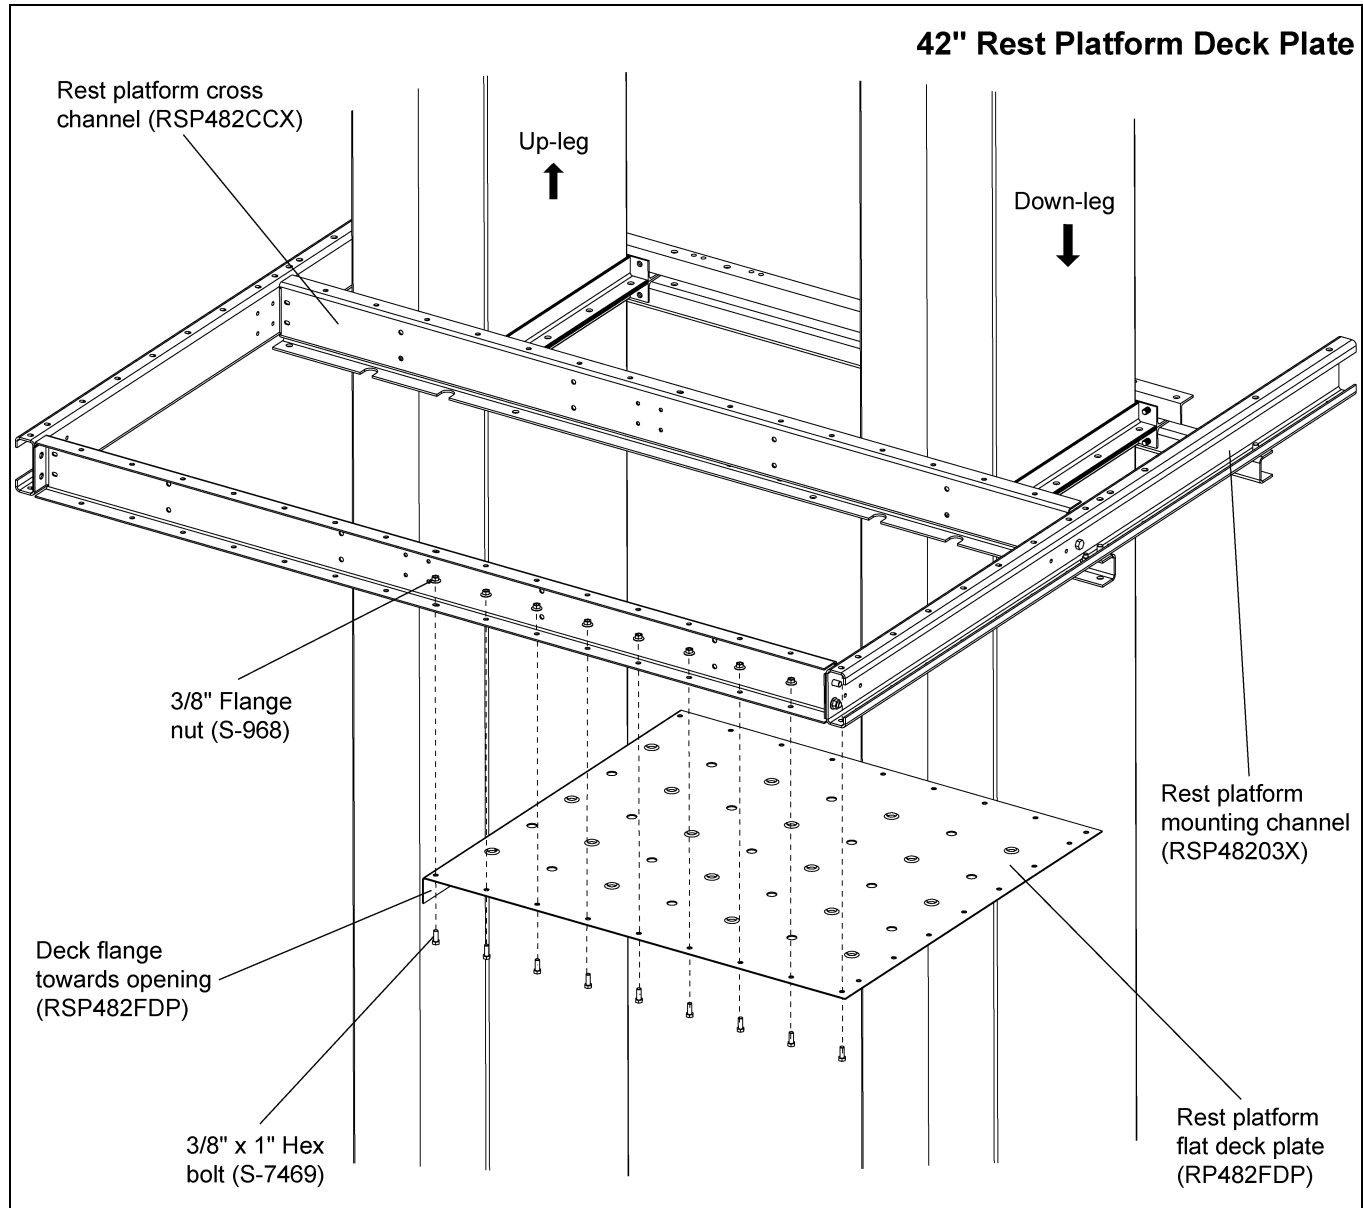

Figure 7H 42" Rest Platform Deck Plate
2. Bolt heads must be installed against the deck plate. *(See Figure 7H below and Figure 7I on Page 45.)*